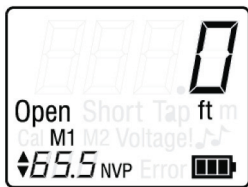

Figure 4-1. LCD display screen in memory storage.
3. Press the MEM button to recall the stored NVP Value. The LCD display screen, illustrated in Figure 4-1, shows the following: